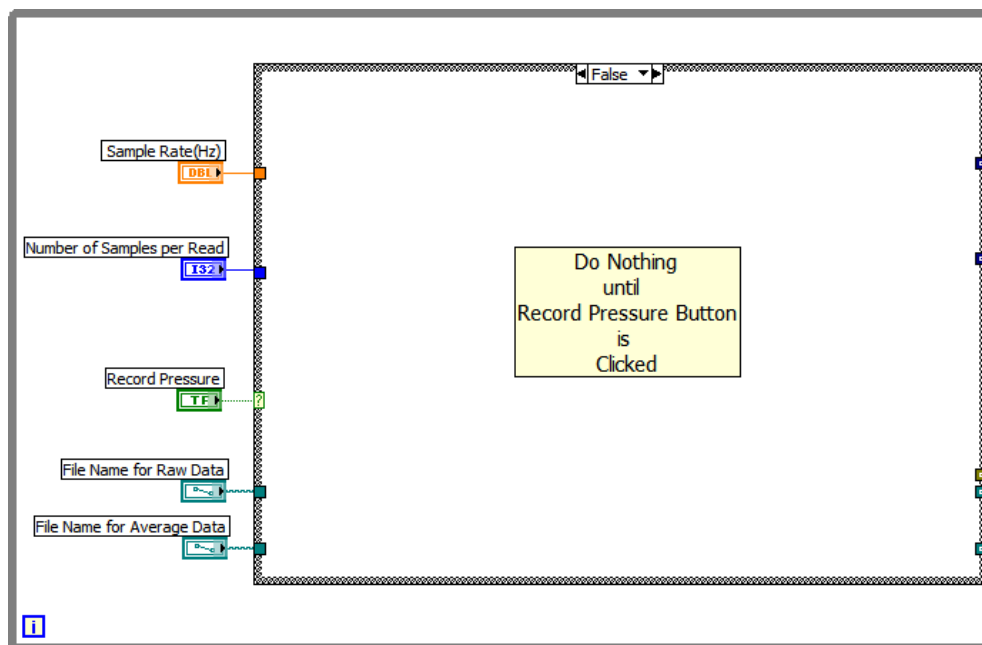

Figure 2. Waiting for the Record Pressure Button to be Clicked
- After the program is started, the input data from the front panel is noted, and the program waits until the *Record Pressure* button is clicked. See Fig 2.